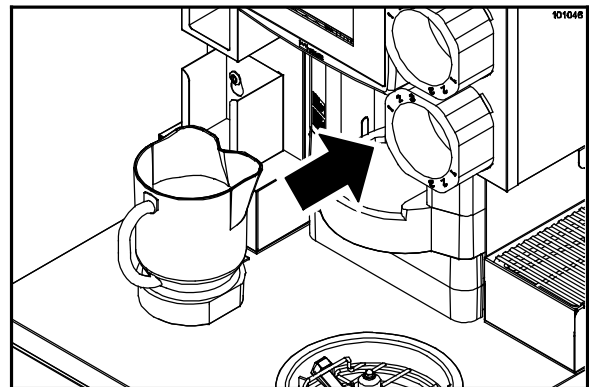

Figure 65
7. Place a blender pitcher in the dispensing area. (See Figure 65.)